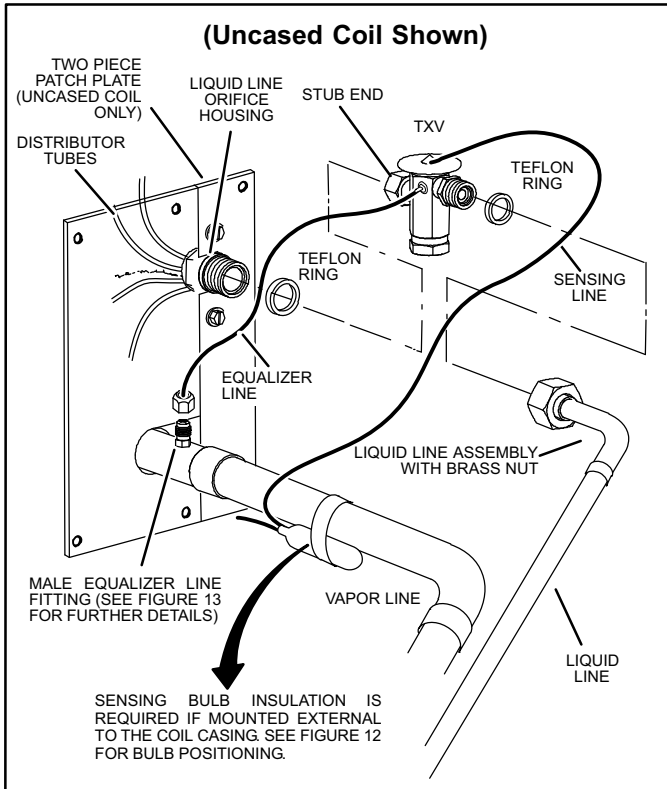

Figure 10. Patch Plate (Configuration A)
NOTE - Either models (C33 or CX34) could be configured as illustrated in either figure 10 or 11.
2. Position the orifice housing with the patch plate as illustrated in either figure 10 or 11. Carefully install two #8 X 1/2" sheet metal screws through the patch plate into the orifice housing mounting base. The distributor lines must not be twisted or kinked.
The TXV unit can be installed internal or external to the indoor coil. In applications where an uncased coil is being installed in a field-provided plenum, install the TXV in a manner that will provide access for field servicing of the TXV. Refer to figures 10 or 11 for reference during installation of TXV unit.